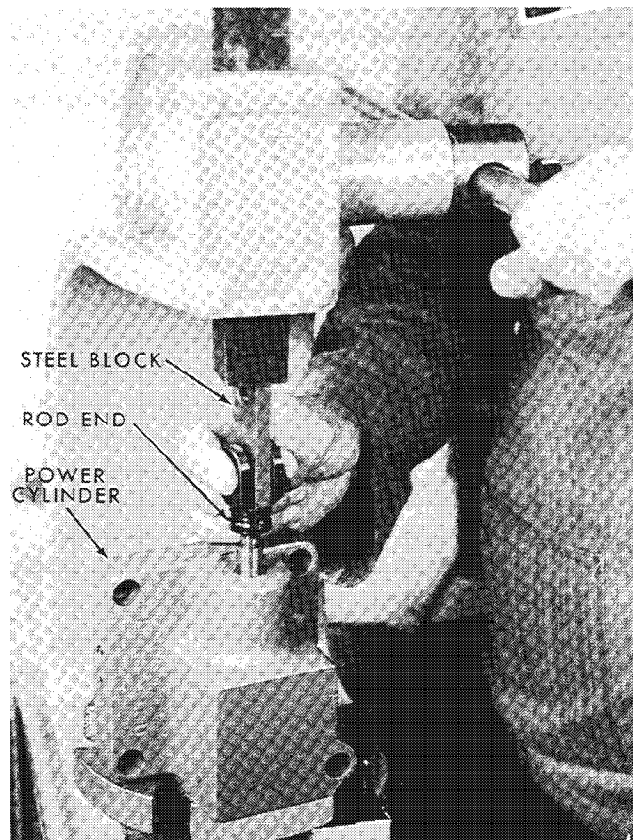

Figure 3-6
4. Press oil seal (52) into oil seal retainer (53) flush with the end opposite the flange end of retainer.
5. Install gasket (51) and the assembly consisting of the oil seal and oil seal retainer. install the drive shaft assembly. Attach retainer (57) with screws (58). Tighten screws evenly. Do not attempt to bring retainer into contact with base.
6. Press oil seals (21) and (22) into power cylinder (12). Seal (21) should be inserted with the part number facing out. Seal (22) should be inserted with the part number facing in and pressed in to 0.005" (0.13 mm) below flush.
7. Place oil seal inserter (Woodward tool 360066) on over the rod of power piston assembly (18) to avoid damaging oil seals (21) and (22) when inserting the piston assembly in the power cylinder.
8. Position the power cylinder in an arbor press, align taper pin holes, and press rod end (24) onto the end of power piston (18). See Figure 3-6. Place a small steel block in the rod end slot so that pressure is applied against the bottom of the slot.